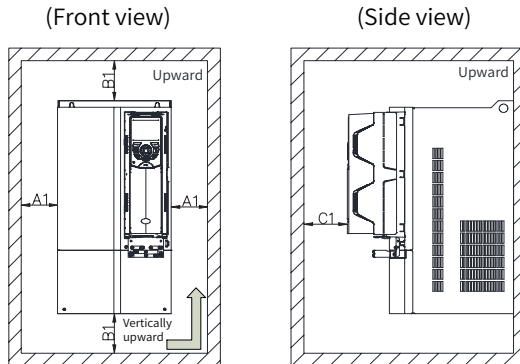

Figure 2-3 Installation clearances of a single AC drive (structures T2 to T9)
- ◆ Reserve the installation clearances as specified in Figure 2-3 to ensure sufficient space for heat dissipation of the AC drive. Take the heat dissipation of other equipment in the cabinet into consideration.